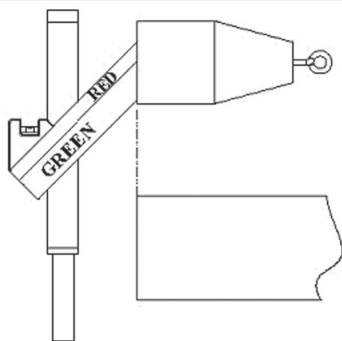

Figure 10a. Align cone with edge of mattress.
4. Position the tool so that the base of the cone is flush or even with the edge of the mattress (figure 10a).